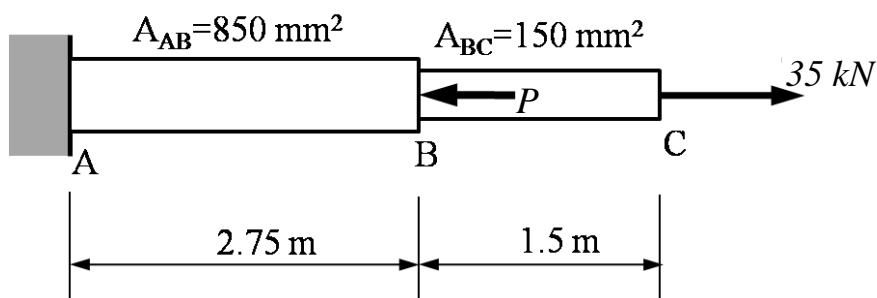

Figure 5/Rajah 5
2. [a] For the stepped bar ABC shown in **Figure 5**, determine the magnitude of load  $P$  at B so that displacement at C is zero. Cross-sectional areas of portion AB and BC are shown in the figure. Use  $E=160\text{GPa}$ .